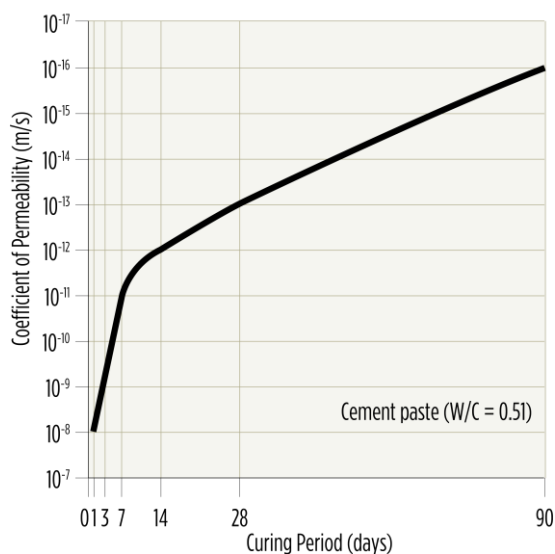

Figure 15.4 – Effect of Duration of Water Curing on the Permeability of Cement Paste
**Figure 15.4** illustrates the effect of different periods of water curing on the permeability of a cement paste with a W/C ratio of 0.51. As can be seen, extending the period of curing reduces the permeability.
**(NOTE: The initial (i.e. time = 0 day) permeability coefficient of concrete with a low W/C ratio (e.g. 0.35) will be much lower than that shown in Figure 15.4; while for a higher W/C ratio (e.g. 0.7)**